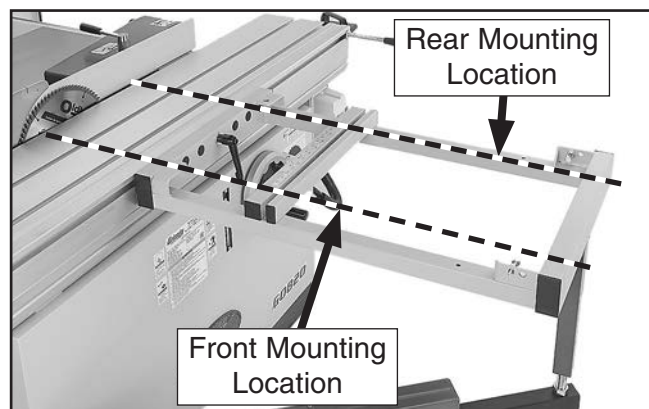

Figure 112. Crosscut fence mounting locations.
1. Install crosscut fence in front mounting location shown in **Figure 112**.